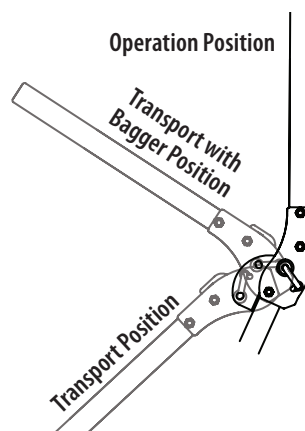

Fig. 23
Refer to Fig. 23 and the following descriptions and uses for the three (3) positions for the ROPS.
2. Move the ROPS into the desired position. The three positions are TRANSPORT position, TRANSPORT WITH BAGGER position and OPERATION position (Fig. 23 on page 15).